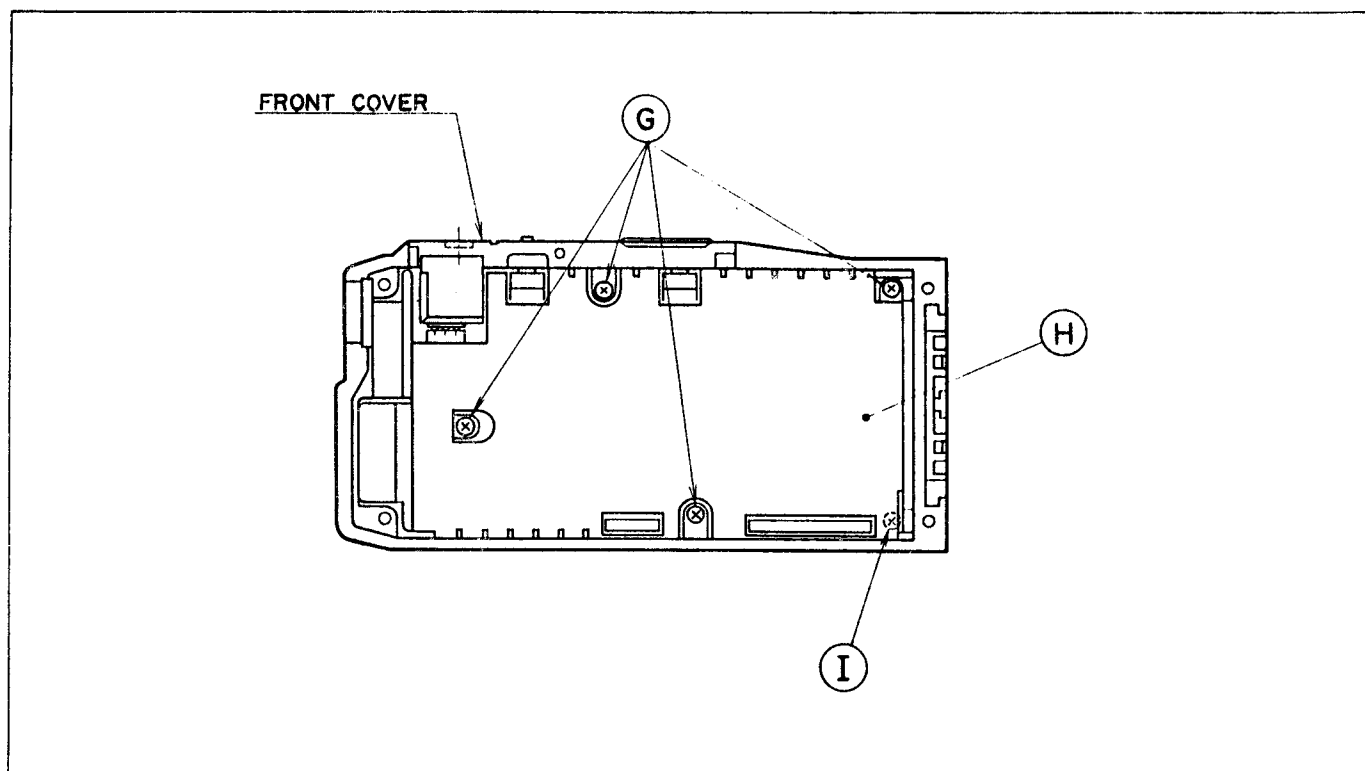

FIGURE 18 - DISASSEMBLY STEP 4
To remove the Controller Board, use the Phillips-head screwdriver and remove the five (5) screws at (G) from the controller board and remove the shield at (H). Remove one (1) screw at (I) (See Figure 18)